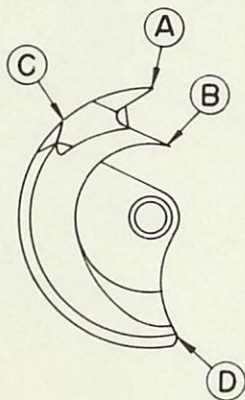

Fig.20
1) Bruise of the shuttle(Fig.20)